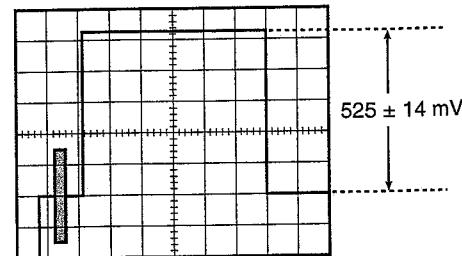

Fig. 4-1
- Adjust VR7 so that the White signal level becomes $525 \pm 14 \text{ mV}$ as shown in Fig. 4-1.